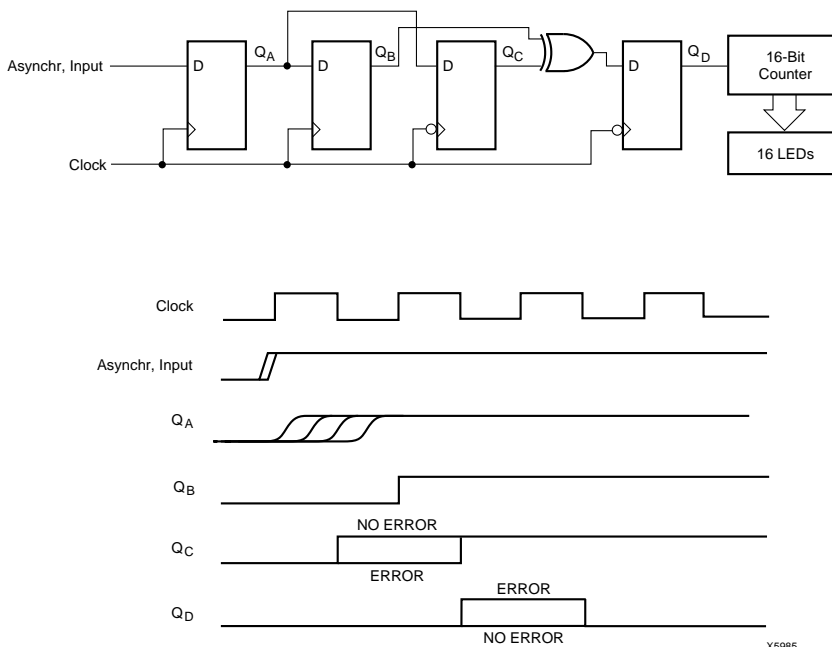

Figure 1: Test Circuit and Timing Diagram
Since metastability can only be measured statistically, this data was obtained by configuring several different Xilinx FPGAs with a detector circuit shown in Figure 1. The flip-flop under test receives the asynchronous ~1-MHz signal on its D input, and is clocked by a much higher manually adjustable frequency. The output QA feeds two flip-flops in parallel, one (QB) being clocked by the same clock edge, the other (QC) being clocked by the opposite clock edge. When clocked at a low frequency, each input change gets captured by the rising clock edge and appears first on QA, then, after the falling clock edge, on QC, and finally, after the subsequent rising clock edge, on QB.
The circuit of Figure 1 was implemented in five different Xilinx devices: two cutting-edge devices using 0.5 micron, 3-layer-metal technology, the XC4005E-3 and the XC3142A-09, one device, the XC5206 using 0.6 micron, 3-layer-metal, and, for comparison purposes, also in two older-technology devices, the XC4005-6 and the XC3042-70.